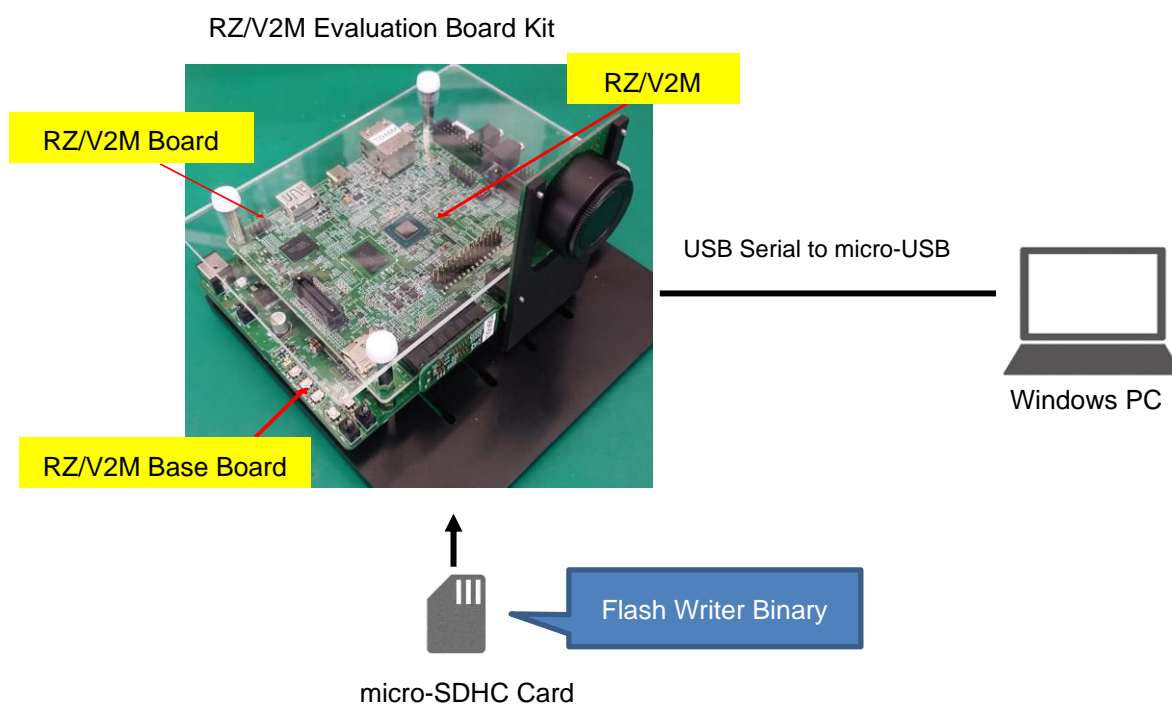

Figure 4-1. Equipment setting
- (1) Connect your Windows PC and RZ/V2M Evaluation Board Kit with a USB serial to micro-USB cable as shown in Figure 4-1.